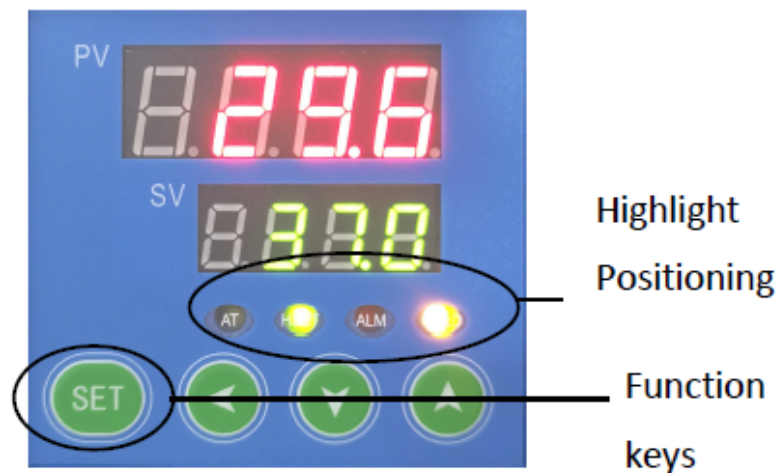

Figure 6
3.1 (See Figure 6) Click "SET" key, The PV screen displays "SP", SV screen displays the set temperature value.